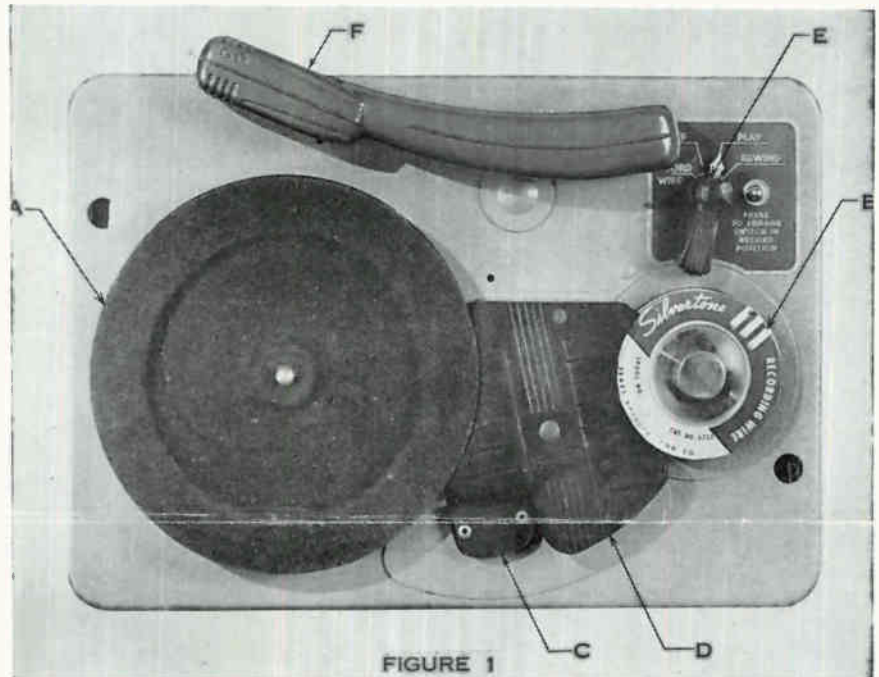

FIGURE 1
Figure 1 is a top view of the mechanism. This consists of (a) a large spool (turntable) which has an inside groove diameter of approximately $5\frac{13}{16}$ " (b) a supply spool (c) head (d) automatic switch (e) main control (f) tone arm. Turntable B diameter was chosen such that it turns 78 RPM in order to permit the user to have the additional feature of a record player. The supply spool is a band type of spool which presses onto the hub. The recording head oscillates up and down to level wind the wire on the take-up and supply spools. The automatic switch shuts the machine off when the wire comes to the end of the spool. The main control switch has four positions: (1) record, (2) play-back, (3) rewind, and (4) off. Tone arm is used for playing records.
A polystyrene panel about 5" x 7" x 1/4" is used as the base in order to get good insulation. The illustration Figure 1 shows the approximate location of the parts. The coil and the two tubes are mounted above the panel, bypass condensers, resistors and choke underneath with the plate tank tuning condenser wherever convenient for adjustment. Note however that this model was made for use in a laboratory set where reduction in size was important so the nearest equivalent miniature types 6AQ5 and 1Z2 were used. The coil will dissipate heat better if mounted with the axis horizontal, but we have had no trouble with heating when mounted vertically as shown. The filament heating loop is made from bare or enameled No. 12 copper wire formed to about 2" diameter and mounted rigidly by